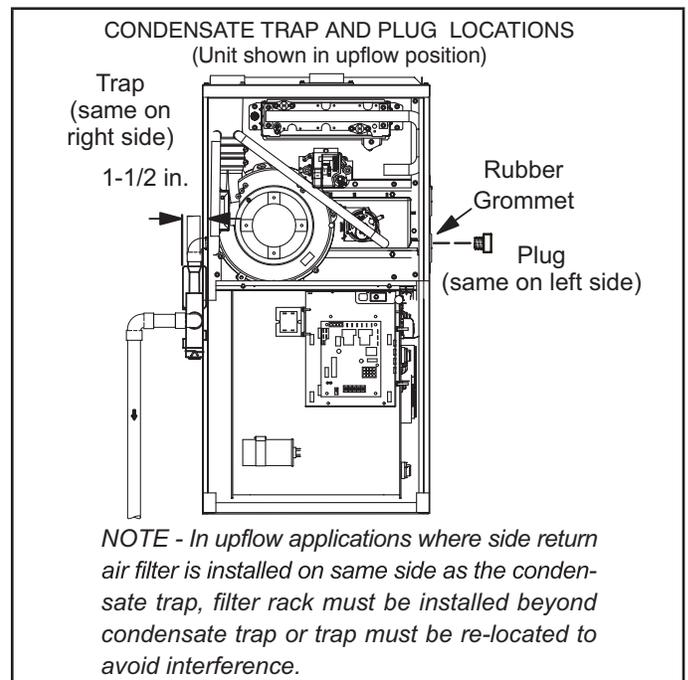

FIGURE 43
This unit is designed for either right- or left-side exit of condensate piping in upflow applications. In horizontal applications, the condensate trap must extend below the unit. An 8" service clearance is required for the condensate trap. Refer to FIGURE 43 for condensate trap locations. FIGURE 51 (3/4" drain connection) and FIGURE 52 (1/2" drain connection) shows trap assembly using 1/2" PVC or 3/4" PVC.
- 2 - For furnaces with a 1/2" drain connection use a 3/8 allen wrench and remove plug (figure 43) from the cold end header box at the appropriate location on the side of the unit. Install field-provided 1/2 NPT male fitting into cold end header box. For furnaces with a 3/4" drain connection use a large flat head screw driver or a 1/2" drive socket extension and remove plug. Install provided 3/4 NPT street elbow fitting into cold end header box. Use Teflon tape or appropriate pipe dope.